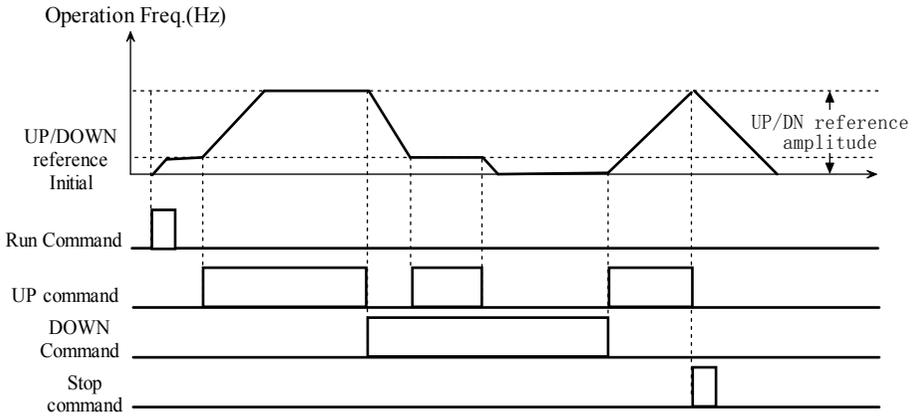

Fig. 5-3-4 UP/DOWN non-combination operation diagram
- ◆ If frequency setting selection (P0.03) is not 2, the frequency set mode will be frequency setting mode 1. If frequency setting mode 1 has chosen Terminal UP/DN (setting value is 7) function, whether the terminal UP/DN is effective or not, the inverter will run at initial value of UP/DN (If the UP/DN reference is lower than zero, the inverter will run at zero-speed). If any UP/DN function terminal is effective, the UP/DN reference frequency will be changed by terminal UP/DN. And the frequency is increased or decreased on currently operating frequency at the rate of Terminal UP/DN rate setting (P3.10). At this time, if UP/DN is disabled, currently running frequency will be the final UP/DN reference frequency. The frequency reference of UP/DN will be saved according to selection of saving the UP/DN reference if UP/DOWN function is not effective and “STOP/RESET” key has been pressed. The saved direction is positive. However, if UP/DOWN function is effective, the frequency reference of UP/DOWN will keep the initial value even if press “STOP/RESET” key. As shown in Fig.5-3-4.